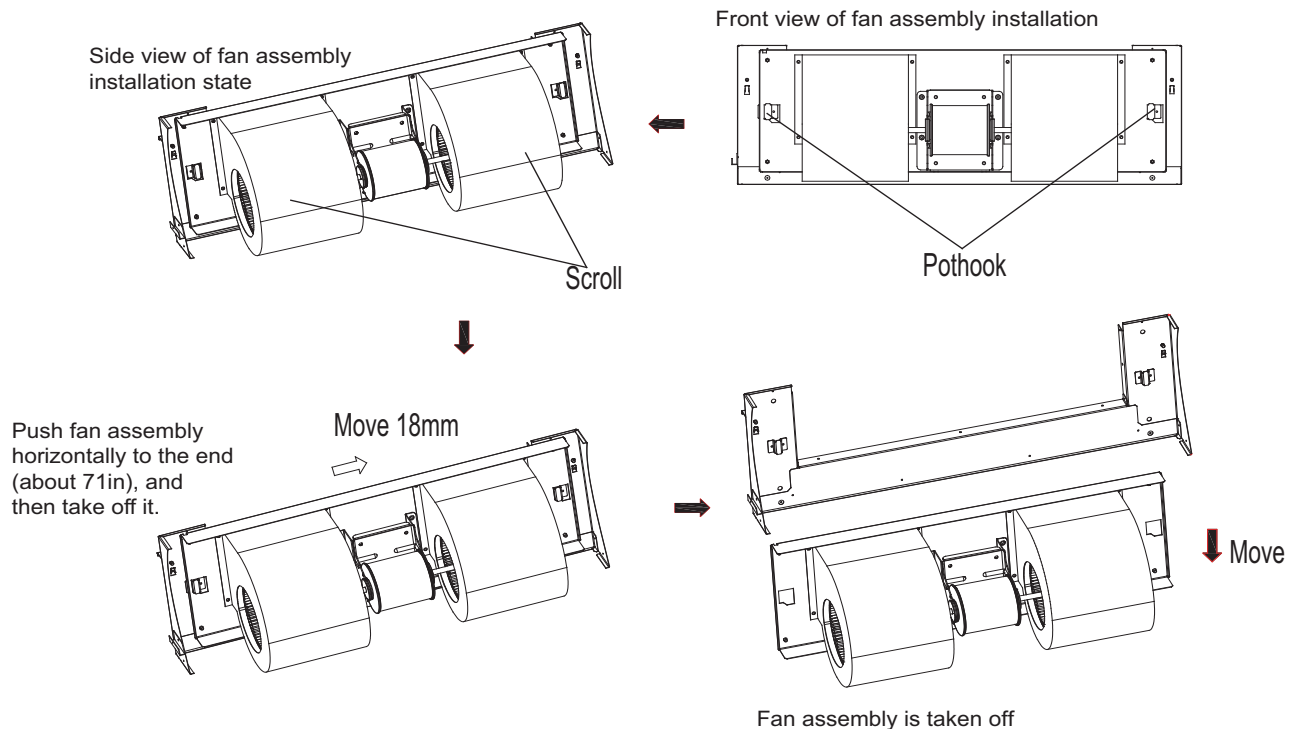

Fig. 42 —Fan Disassembly (048-054)
2. Remove all 4 bolts from the fan assembly. See Fig. 42.
3. Horizontally push the fan assembly until it cannot not move any further, and lift up slightly, and take down to remove. See Fig. 42.